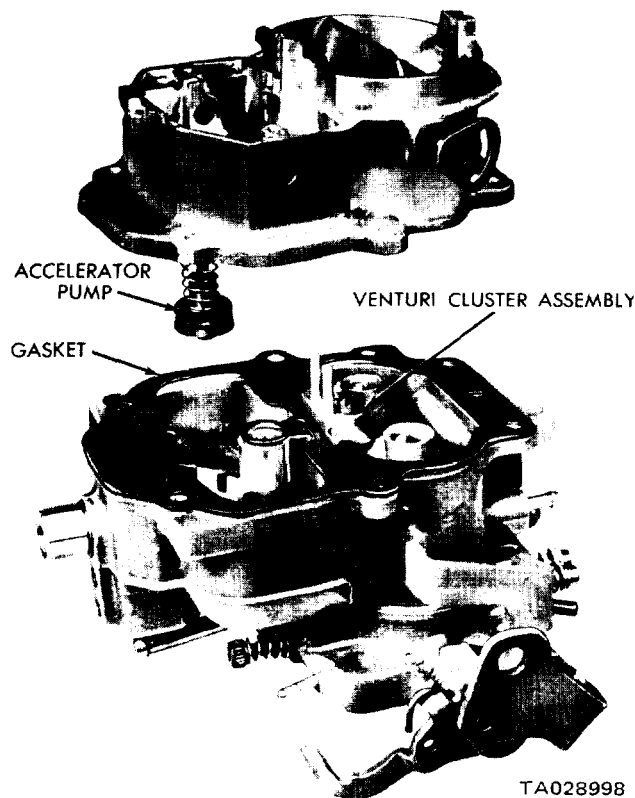

Figure 12-5. Removing or Installing the Air Horn.
(7) Remove the vacuum hose from between the carburetor main body and the choke vacuum diaphragm.
(8) Remove the choke diaphragm, linkage, and bracket assembly and place it to one side to be cleaned as a separate item.
(9) Remove the fast-idle cam retaining screw to release the fast-idle cam and linkage. Remove these parts.
(10) Remove the air horn retaining screws and lift the air horn straight up and away from the main body as shown in figure 12-5. Discard the gasket.
(11) Turn the air horn over and push the spring down to remove the "S" link from the pump shaft. Remove the pump assembly.
(12) Remove the fuel inlet needle valve, the seat, and the gasket from the main body.